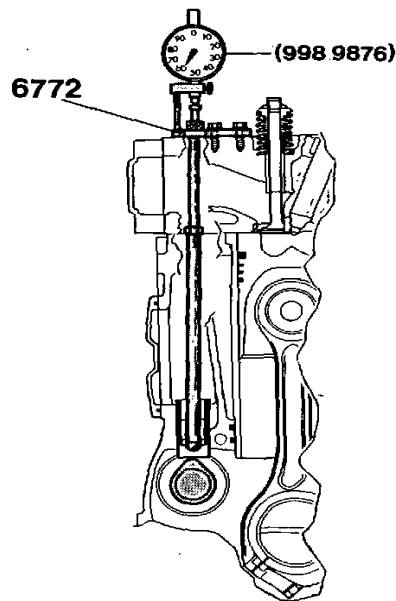

Fig. 85. Checking the camshaft wear
2. Fit the tool 6772 to the front lifter (fig. 85). Adjust the length of the rod on the tool so that it makes contact with the lifter with pre-tension.